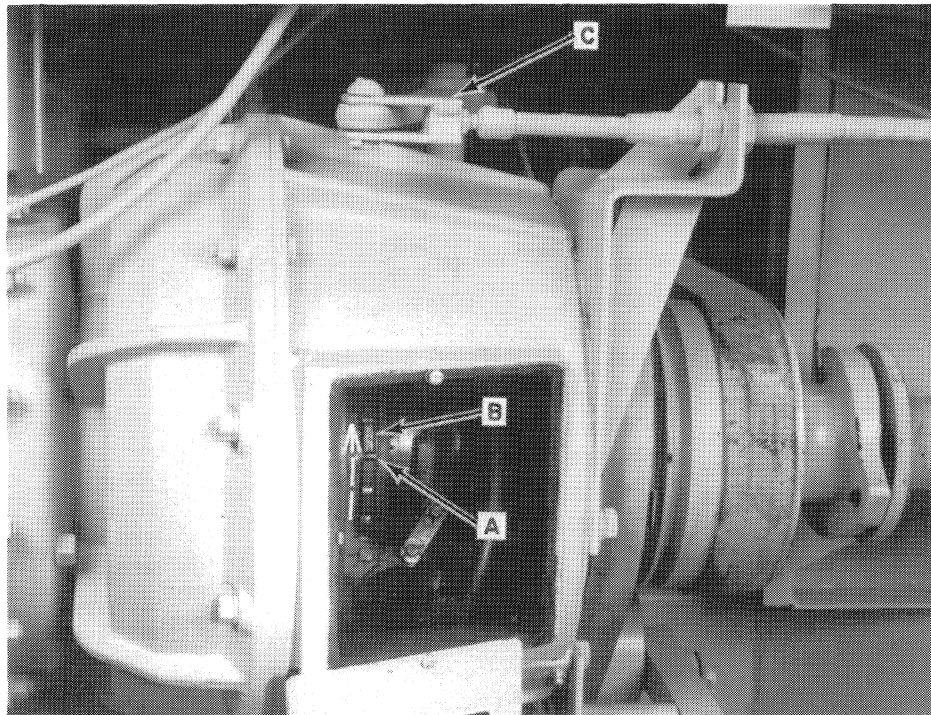

FIGURE 2-11
1. Adjust the clutch assembly so 205 lbs. (93 kg) force is required on the lever to engage the clutch. To increase the engaging force, depress the locking pin, A, Figure 2-11, and rotate the adjusting nut, B, up.